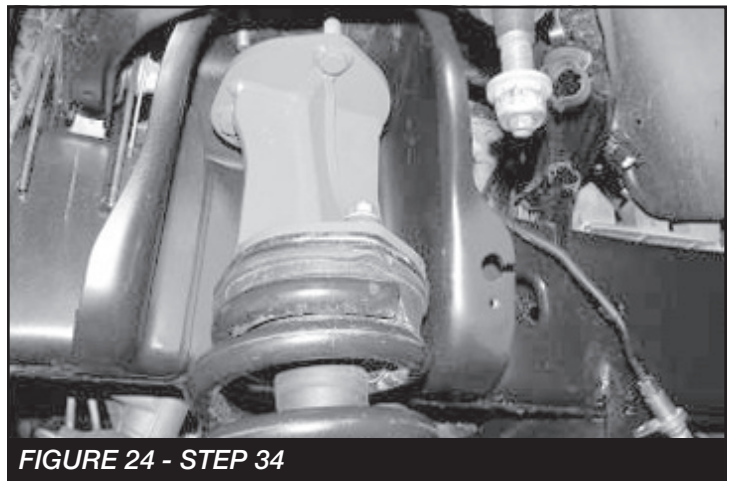

FIGURE 24 - STEP 34
34. Install the complete shock assembly into the truck attaching the three upper bolts first using the supplied 7/16" C-lock and flat washers, leave loose. Torque upper hardware to 83 ft. lbs. **SEE FIGURE 24**